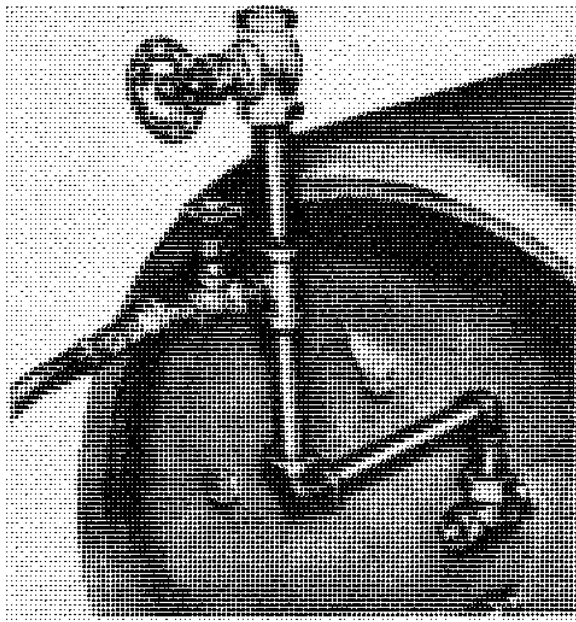

Figure 4. Air pressure line connected to pneumatic tank valve on venting assembly.
- (1) Close the upper and lower angle valves on the 1-ton container and close all globe valves in the line filling adapter.
- (2) Connect a source of compressed air to the pneumatic tank valve on the venting assembly (fig. 4).
- (3) Open the upper angle valve on the 1-ton container.
- (4) Slowly open the  $\frac{1}{4}$ -inch globe valve on the venting assembly. This will admit compressed air into the venting assembly and apply pressure to the clogged angle valve or eduction tube.
- (5) When air is heard flowing into the 1-ton container, quickly close the  $\frac{1}{4}$  inch globe valve in the venting assembly, close the upper angle valve in the 1-ton container, and disconnect the source of compressed air from the pneumatic tank valve.
- (6) Vent the 1-ton container (para. 10).